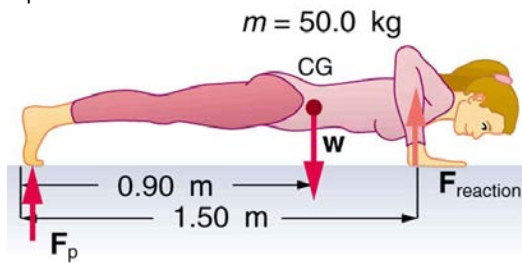

Figure 9.45 A woman doing pushups.
37. (a) What force should the woman in **Figure 9.45** exert on the floor with each hand to do a push-up? Assume that she moves up at a constant speed. (b) The triceps muscle at the back of her upper arm has an effective lever arm of 1.75 cm, and she exerts force on the floor at a horizontal distance of